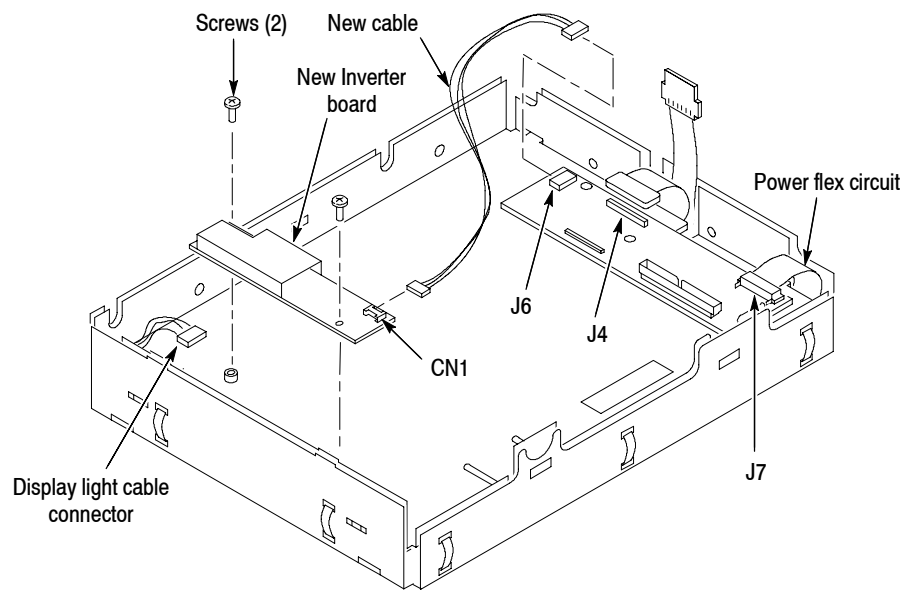

Figure 7: Install the Inverter circuit board
8. Connect the new cable between the (CN1) and (J6) connectors on the Inverter and Display Adapter circuit boards. See Figure 7.
9. Connect the LCD light connector (S) to the Inverter circuit board.